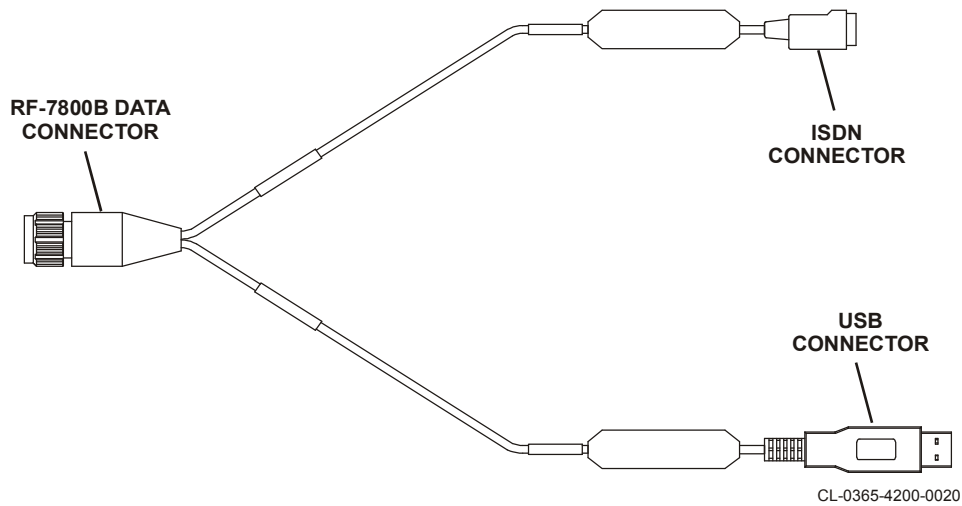

Figure 3-5. Standalone USB & ISDN Cable, 12043-0836-A010 (Optional)
Connect the BGAN terminal to the computer USB port using a USB cable option. Use Standalone Ethernet, ISDN, USB Cable, 12043-0832-A010, or Standalone USB and ISDN Cable, 12043-0836-A010 (see Figure 3-5). On first use of the USB port, the computer will detect that new USB hardware has been connected. Follow the installation instructions for the USB Local Area Network (LAN) LINK driver software.
- See Figure 3-5 for Standalone USB and ISDN Cable, 12043-0836-A010.